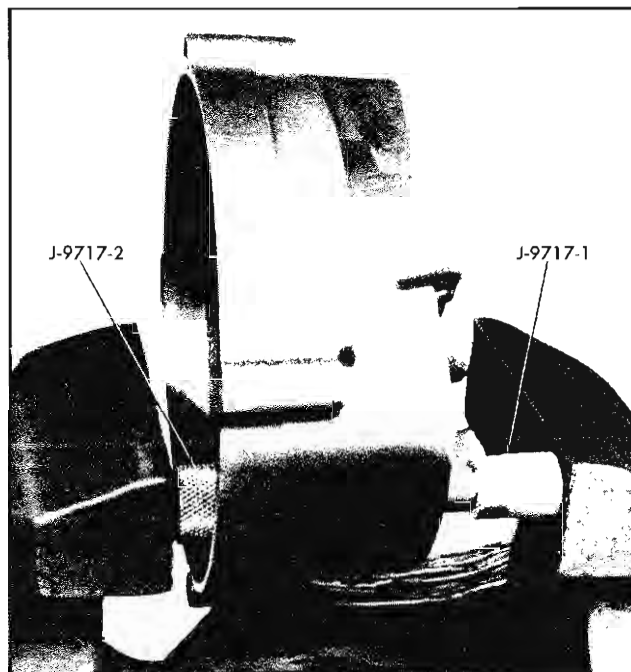

Fig. 11-19 Removing Diode
1. With stator removed, support slip ring end frame in vise or arbor press with J-9717-2 against casting and position remover J-9717-1 against diode as shown in Fig. 11-19.